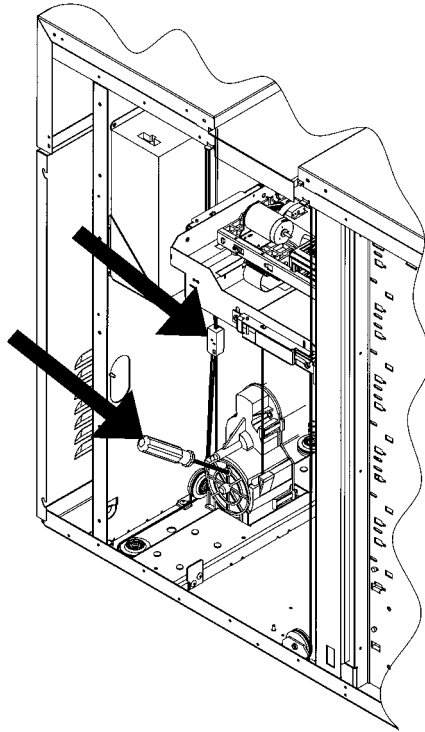

Figure 30: Raising the Translate Frame and Holding the Frame in Position
Caution: Raise the translate frame only by pulling on the vertical drive rope (see the top arrow on Figure 30). The frame can be twisted by pulling it by the sides. A twisted frame may cause various errors in operation.
2. Raise the translate frame up approximately midway up and secure it with a screwdriver inserted into the hole on the rear of the vertical motor gear box (see Figure 30).